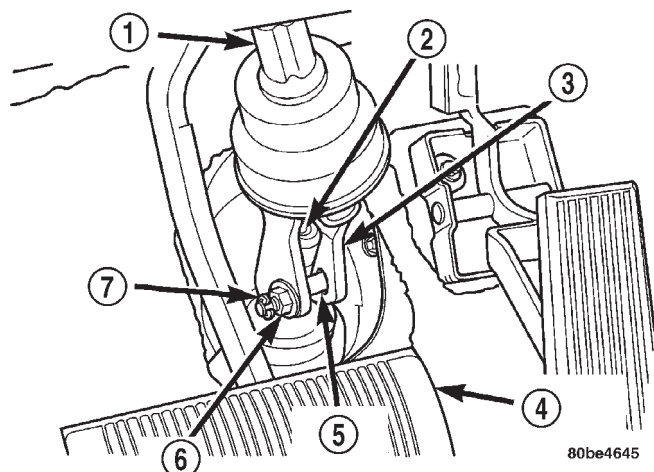

Fig. 23 Early Intermediate Shaft Attachment
coupler pinch bolt (Fig. 23). Next, remove the pinch bolt from the intermediate shaft coupler by backing off the nut, then separate the intermediate shaft from steering gear shaft.
(a) On early production vehicles, reconnect the steering column intermediate shaft to the steering gear shaft (Fig. 23). Install a **new** intermediate shaft coupler pinch bolt through the coupler and into its nut, then tighten the nut and pinch bolt to a torque of 27 N·m (240 in. lbs.).
(6) On early production vehicles, install a **new** "E" clip on the end of the pinch bolt (Fig. 23).